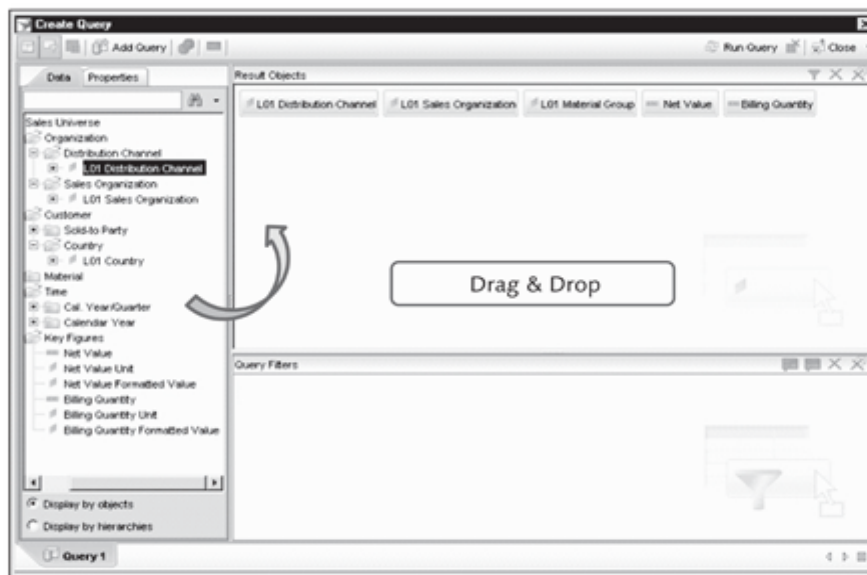

Figure 13.22 Select Result Objects for the Query
4. To address these requirements, let's first start with dragging all of the necessary objects from the Data section to the Result Objects pane (Figure 13.22).